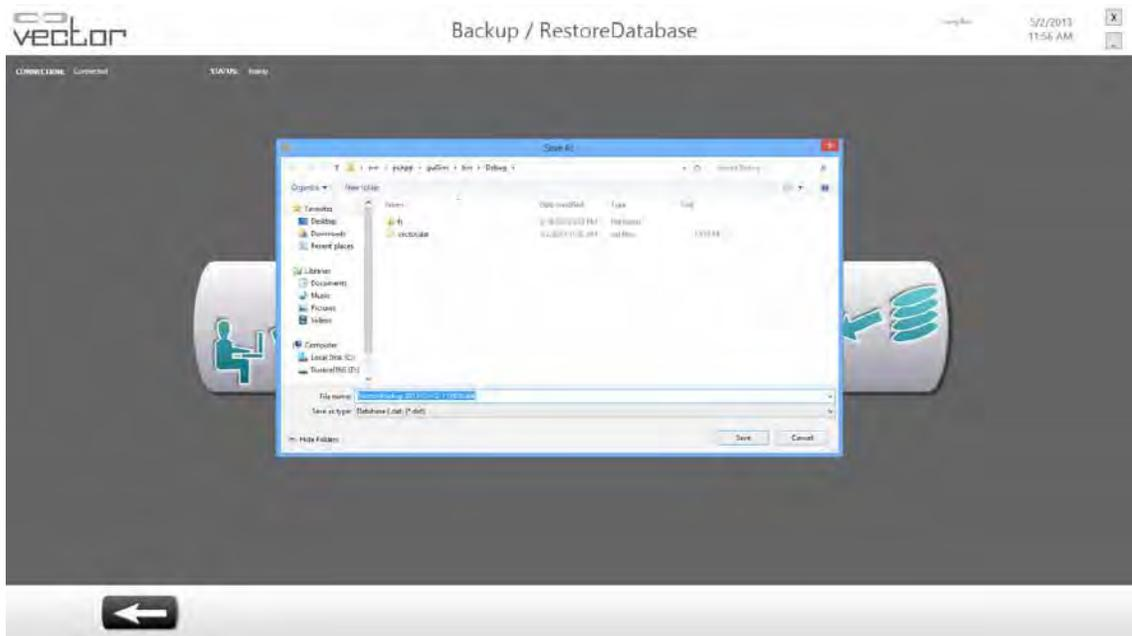

Figure 8-7: Backup Database “Save As” Window
3. Press the Backup to Disc button to backup the system database onto a disc or external hard drive. See Figure 8-7.
4. A window will appear asking where to save the file as a “.dat” file. See Figure 8-7.